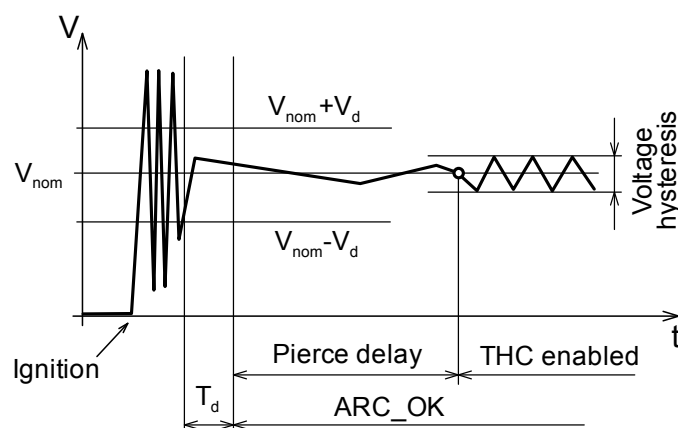

Figure 3.20 Plasma torch arc detection procedure
**Arc detection [±V] relative to Vnom** – option for torch arc presence detection (ARC\_OK) that works by monitoring the arc voltage. The first parameter that should be specified is voltage margin in positive and negative directions in relation to the nominal value ( $V_d$  Figure 3.20), and second parameter **Detection time** ( $T_d$ ), is time interval for the detection. Namely, it is required for the arc voltage to stay during this defined time period inside given voltage range to consider that arc is established and ARC\_OK signal is then activated.